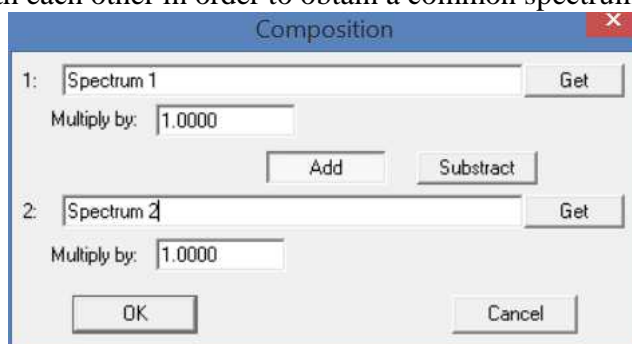

Figure 45. Window **Composition**
**Composition** - calls the dialog box of the same name (see Fig.45), which allows to combine two spectra with each other in order to obtain a common spectrum.